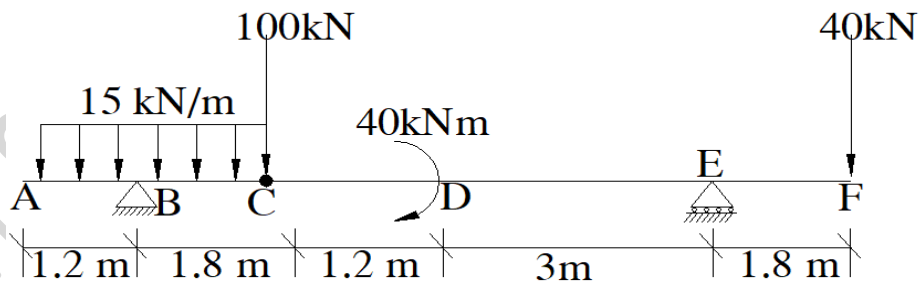

Figure 4
- b) The beam is supported and loaded is as shown in the figure 4. Draw the SFD and BMD indicating the salient points. 15